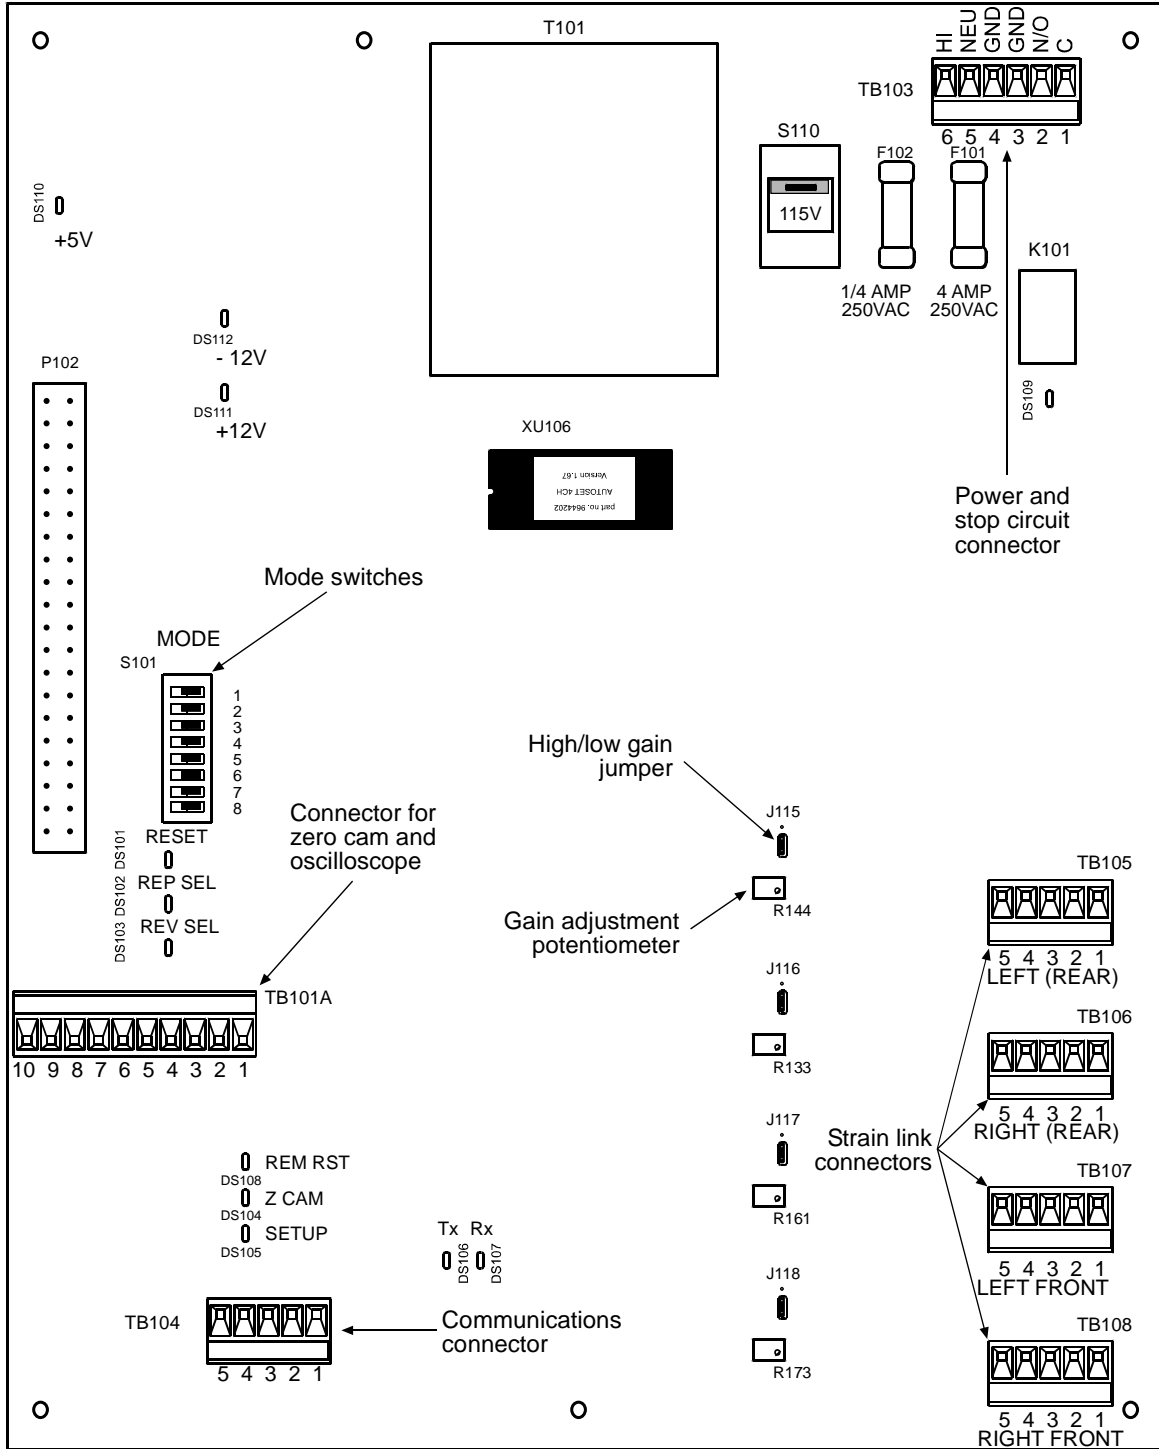
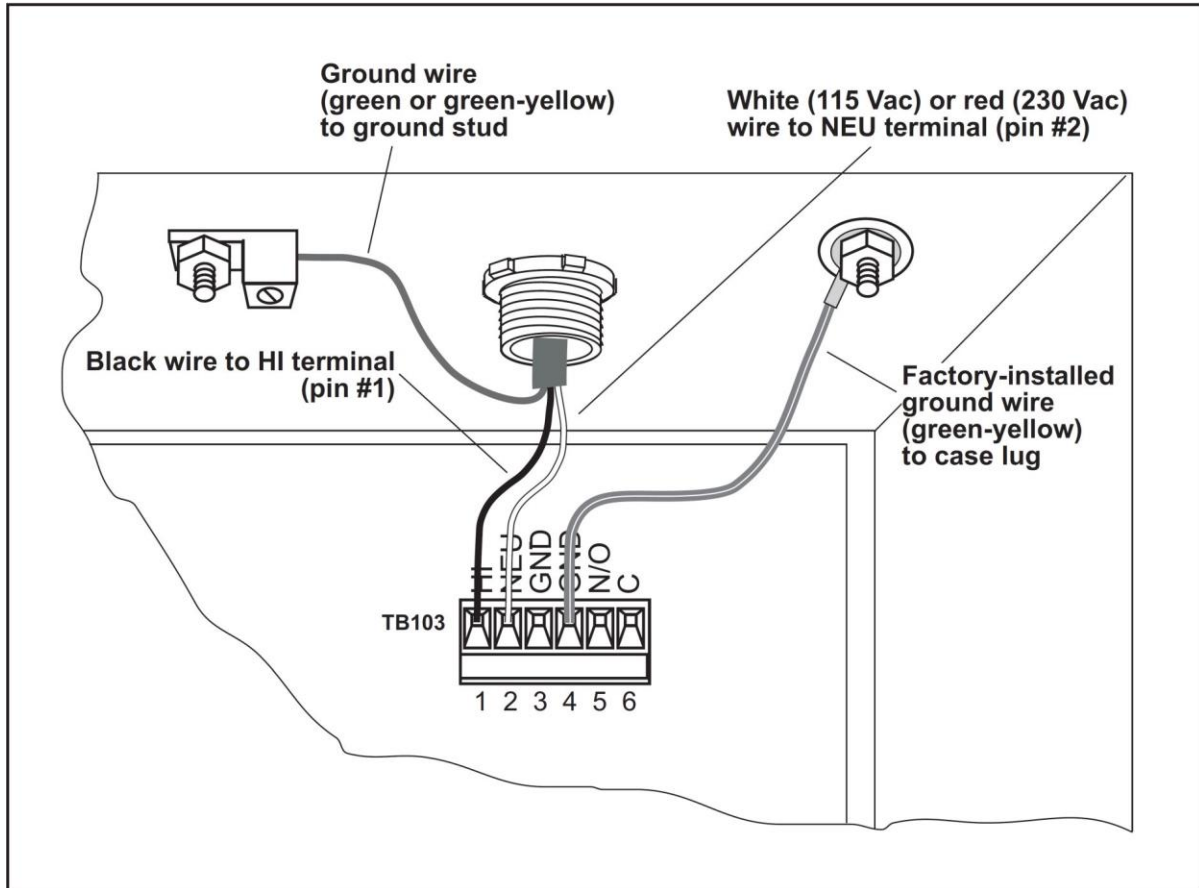

Figure 2-6 AutoSetPAC 4-Channel Processor Board: Location of Important Components.
Figure 2-7. AC Power Connections
Wiring connections for AC power and stop circuits are made on terminal block TB103, which is located at the upper right of the AutoSetPAC processor board (see Figure 2-6, page 35, or Figure 2-7, page 36). To make wiring connections, do the following:
3. Open the control enclosure or console and locate the 115V-230V voltage selector switch (S110) in the upper right corner of the AutoSetPAC processor board (see Figure 2-6 or Figure 2-7). Set the switch to 115 V, the factory setting. If your AutoSetPAC will be used with 230 Vac, push the switch to the “230V” position, using a fingernail or a screwdriver.